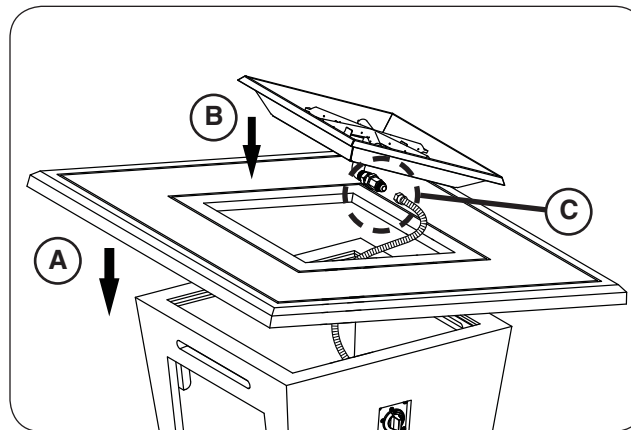

Fig. 20-3 Place top, burner, and connect flex
3. **CAREFULLY** place the top on the unit (see Fig. 20-3, A).
4. Drop the burner assembly into the opening in the center of the firetable top, with the two burner pan holes facing toward the door (see Fig. 20-3, B).
5. Locate the flex connector (marked OUT) that is coming off the valve assembly. Route it to the connection found on the underside of the burner assembly and connect. Tighten securely. See Fig. 20-3, C.